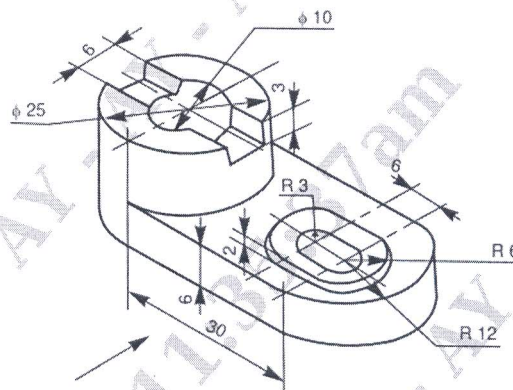

Fig. 1: Shaft bracket
- Q.No.1** Draw (i) the sectional view from the front, (ii) the view from above and (iii) the view from right of the shaft bracket shown in Fig. 1. **(25 Marks)**